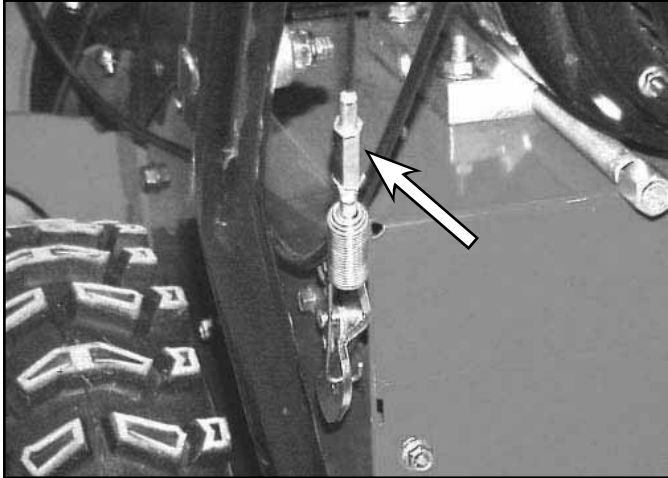

Fig 048
2. Adjust using the turnbuckle; hold the cable to prevent twisting (Fig. 048).